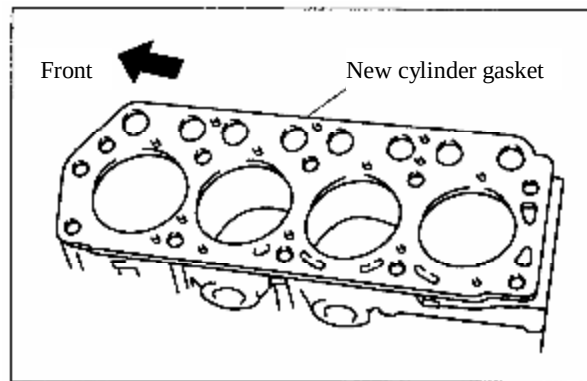

Figure 3-4 Installation of Cylinder Gasket
3.1.4 When to mount a cylinder gasket, apply high temperature resistant sealant on surfaces of its both sides so as to ensure sealing performance. The gasket must be replaced each time cylinder head has been dismantled (see figure 3-4).